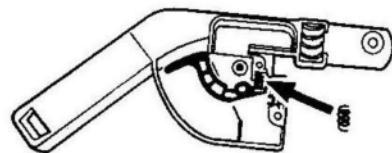

FIG 45
2. Fit throttle inter-lock and compression spring (Fig 45).